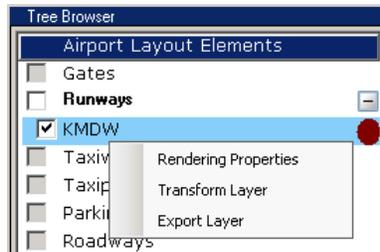

Figure 5-17 Runways in Tree Browser
4. From the *Tree Browser* (Figure 5-17), double-click on *Runways* category or a runway of interest to open the *Runways* dialog box (Figure 5-18). All information is read-only.